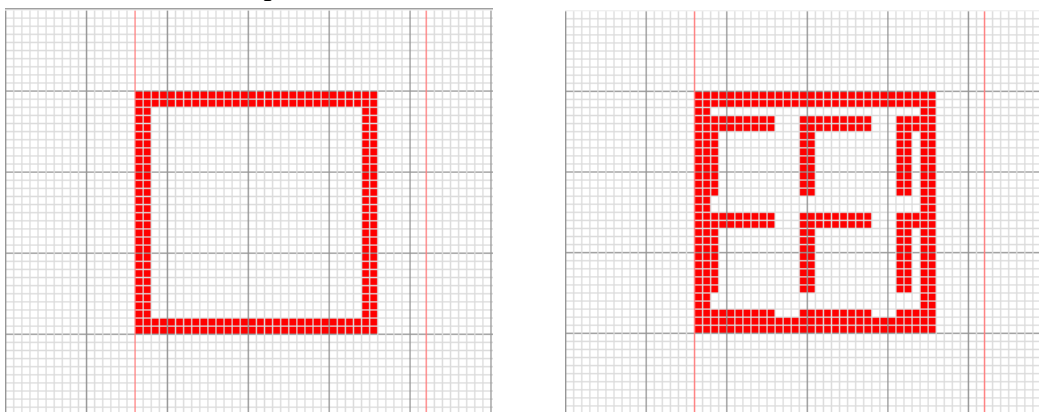

Figure 5.4 Clipboard contents fill
② **Clipboard contents fill:** If you have some contents in your clipboard, when you select this mode, the area will be filled with your contents in clipboard, figure 5.4 shows the clipboard's content is an angle of a rectangle. The related operations are same as normal fill's operations.